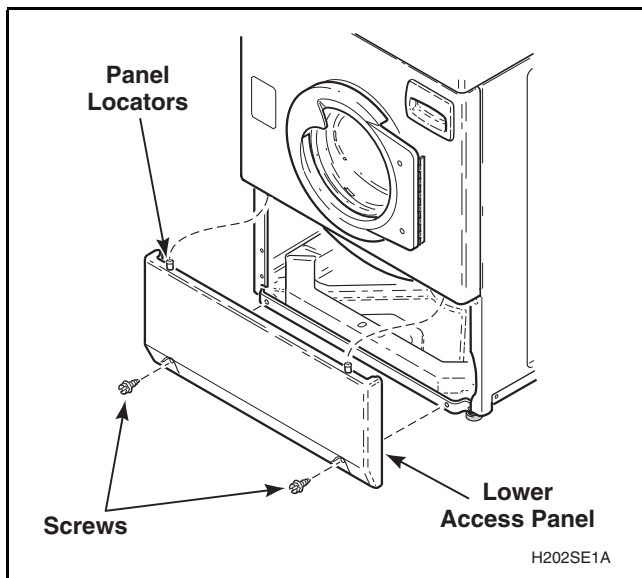

Figure 25
- a. While supporting lower access panel, remove two screws from bottom edge of panel and remove panel. Refer to *Figure 25*.